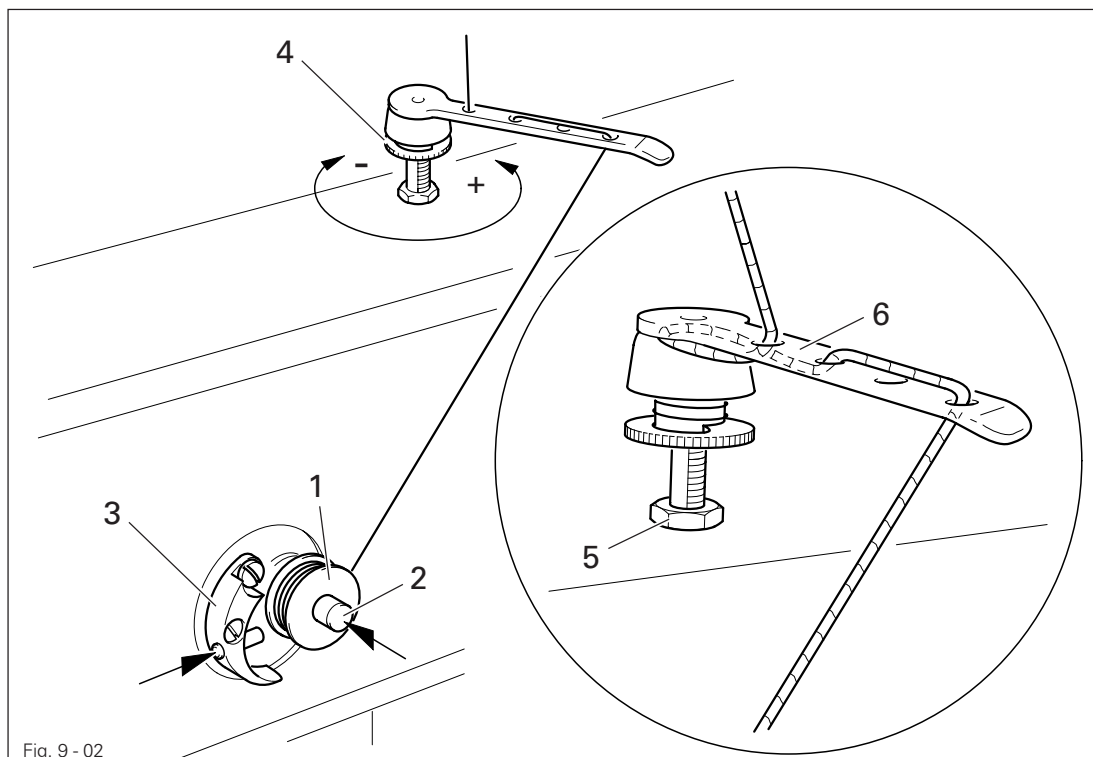

Fig. 9-02
Fig. 9-02 shows a machine with thread trimmer -900/51.
- Thread up as shown in Fig. 9-02 and wind the thread a few times clockwise around bobbin 1.